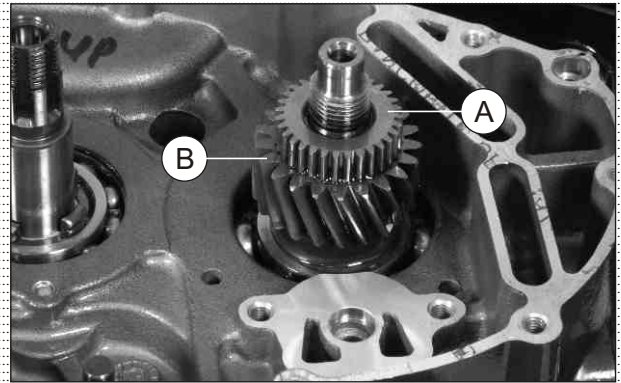

Fig. 3.66
- Remove gear oil pump drive (A). (Fig. 3.66)
- Remove gear primary drive (B). (Fig. 3.66)